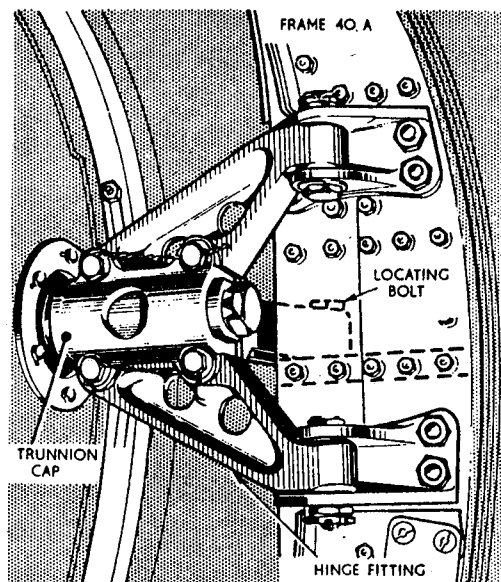

Fig. 16. Rear Engine Mounting
(11) Lower the trolley on to its wheels, roll it forward, and jack it again, so that the centre rail web boss engages with the engine rail lug on the aircraft. Align the engine rear roller rails with the engine rear rollers, ensuring that the trolley is level fore and aft. Lock the trolley to frame 40A by inserting the split bolt in the engine rail lug. Unlock and remove the four bolts securing the engine mounting trunnion caps. Remove the trunnion caps and the locating nuts and bolts (*fig. 16*), enabling the hinge fittings to swing clear as the engine is withdrawn.